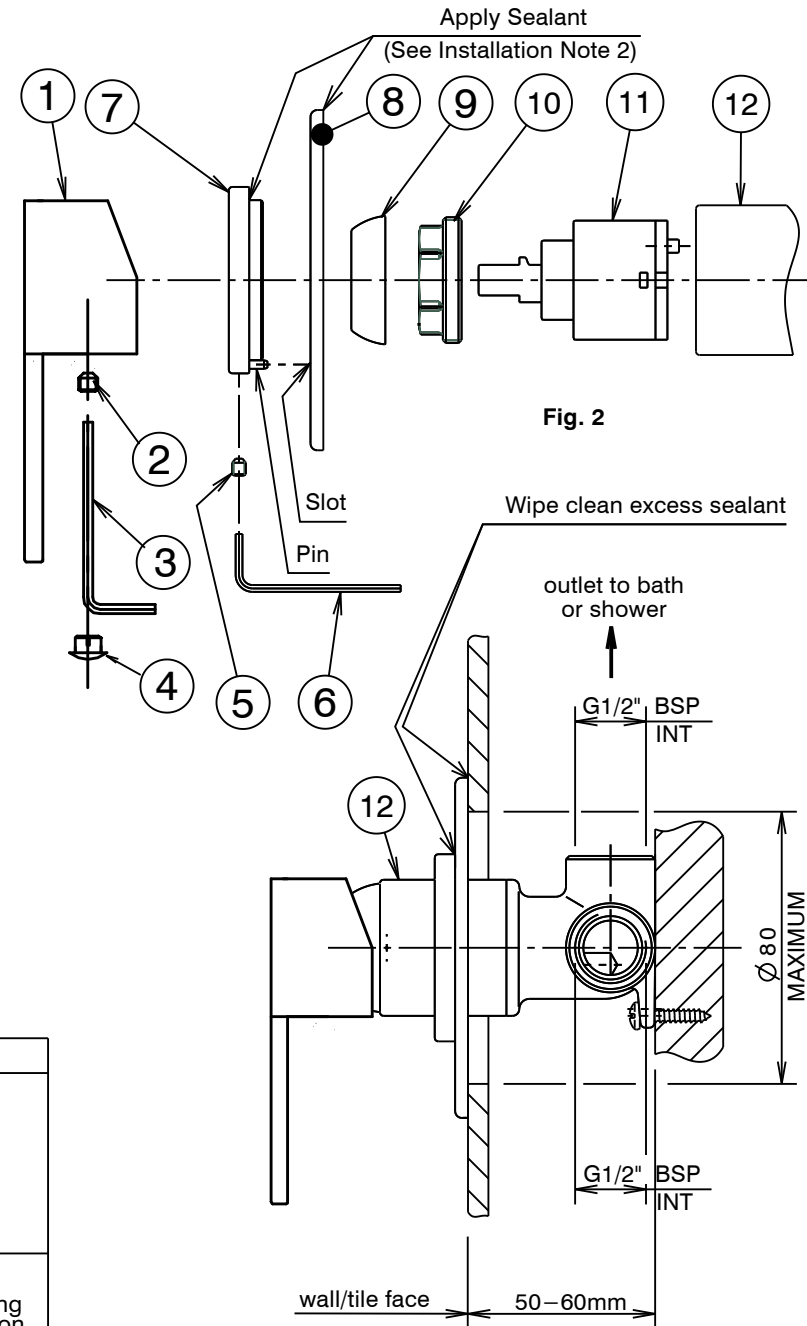

Fig. 1
Installation (Fig. 1 & 2)
- * Mixer body (12) must be installed square to wall/tile face, to ensure cover plate (8) sits flush.
- 2) Apply a suitable clear sealant to the back edge of the cover plate (8), leaving an unsealed section at the bottom for drainage. Apply a suitable clear sealant in the corner around the location diameter of the retaining ring (7), to prevent water entering the wall cavity (See Fig. 2). Carefully fit the cover plate (8) followed by the retaining ring (7) onto the mixer body (12), ensuring the slot in the cover plate is at the bottom & the pin in the retaining ring is engaged in the slot (with the screws at the bottom). Push the retaining ring and cover plate firmly against the wall/tile face and tighten screws (5) using 2mm allen key (6). Wipe clean any excess sealant from the chrome surfaces & the wall/tile face (See Fig. 1).
- 3) Fit handle (1) taking care that it is pushed fully down, then tighten grub screw (2) using allen key (3). Place handle plug (4) onto handle (1).